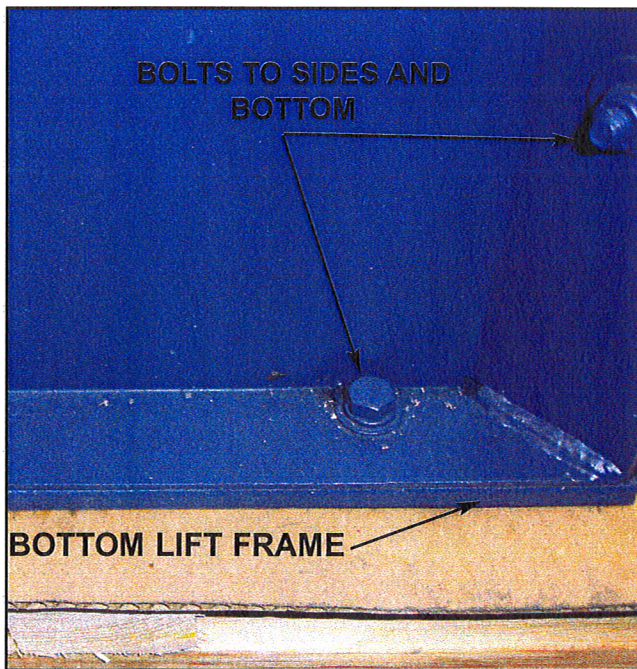

Figure 1
6. DO NOT remove bolts holding lift sides to bottom lift frame. See Figure 1.